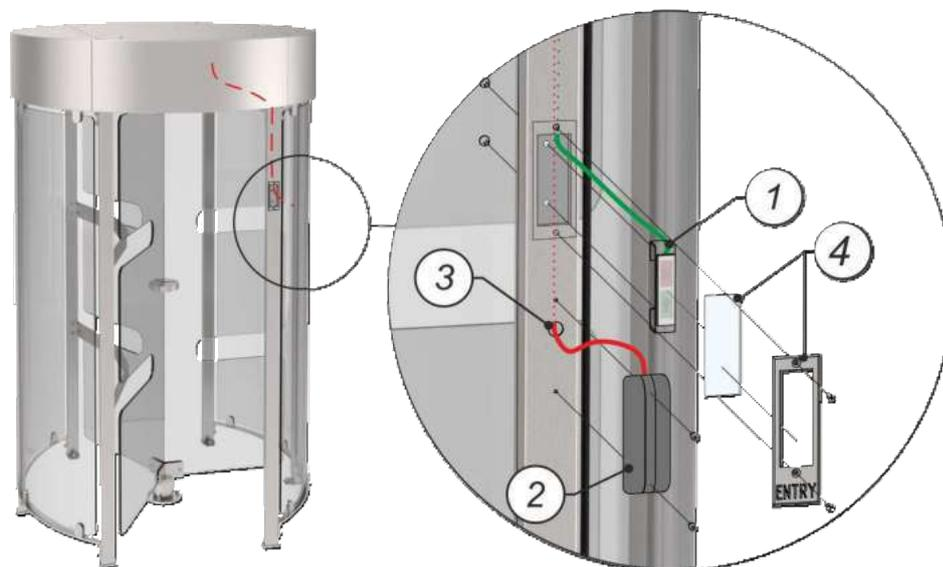

Fig. 15 - Installation of proximity card reader and LED display
- Holes (3) to be made in the access way wall butt (See Figure 15) next to LED display according to the card reader size chosen by the customer. Cable to be pulled to container, card reader (2) to be fixed on the rack and connected;
- LED display bracket (1) to be mounted (4) in the access way wall, cable to be pulled to container, plate to be installed on LED display and fastened with screws;